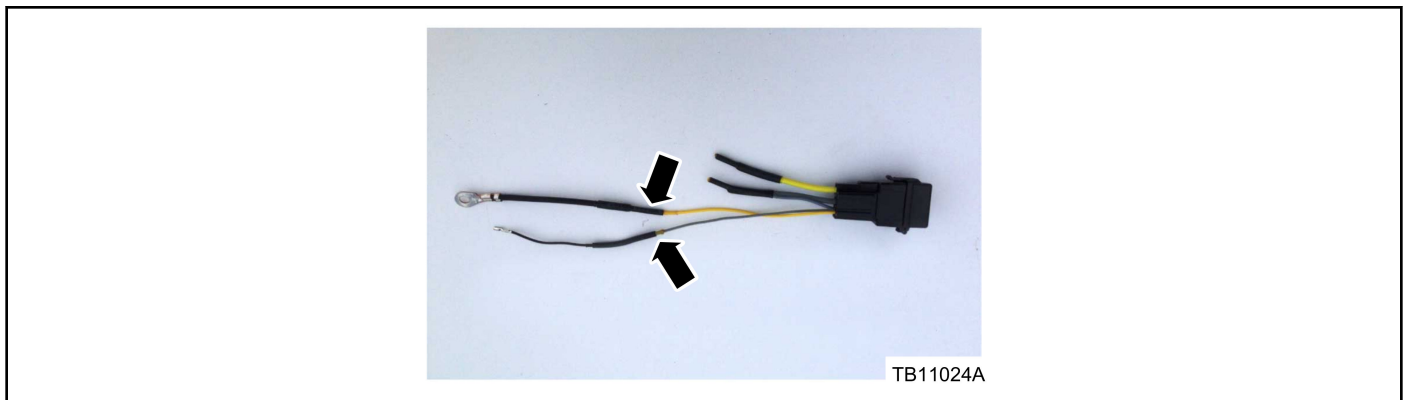

Figure 1 - Article 17-0013
1. Cut the yellow/green (YE/GN) wire and both gray/blue (GY/BU) wires of the new relay kit to approximately 75 mm (3 inch) and heat shrink the ends, these circuits are not used. (Figure 1)
2. Using the solder splicing method, connect the gray/yellow (GY/YE) wire from the relay kit and one pin terminal from the wire-terminal kit together. The pin terminal can be cut to create a total wire length of approximately 250 mm (10 inch). Refer to Wiring diagram (WD), Section 5-5. (Figure 1)
3. Connect the yellow (YE) wire from the relay kit and the ground eyelet pin terminal 105460 together using the solder splicing method. Refer to WD, Section 5-5. (Figure 1)